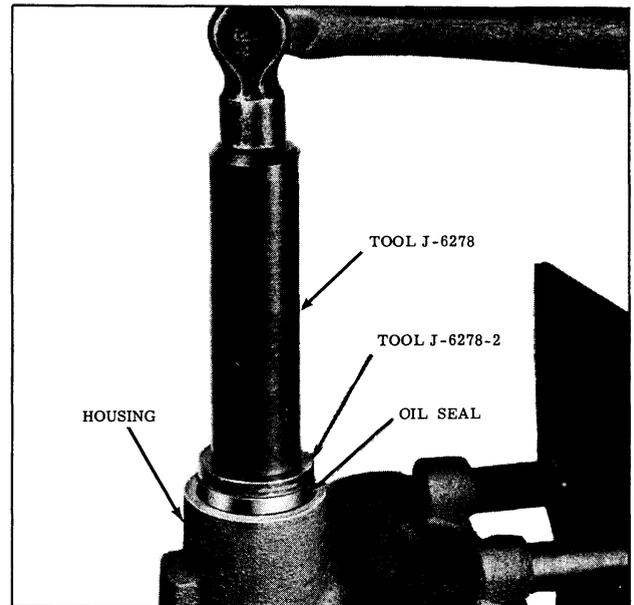

Fig. 5-49 Installing Oil Seal
2. With Tool J-6278-2 over Tool J-6278, slide seal on tool with lip of seal facing away from tool, and drive seal into housing. (See Fig. 5-49)